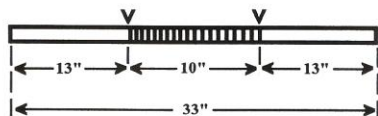

FIGURE 8
5. USING 3/4" TUBING, MARK AND BEND THE REAR SEAT HOOP AS SHOWN IN FIGURE 8 AND 9.